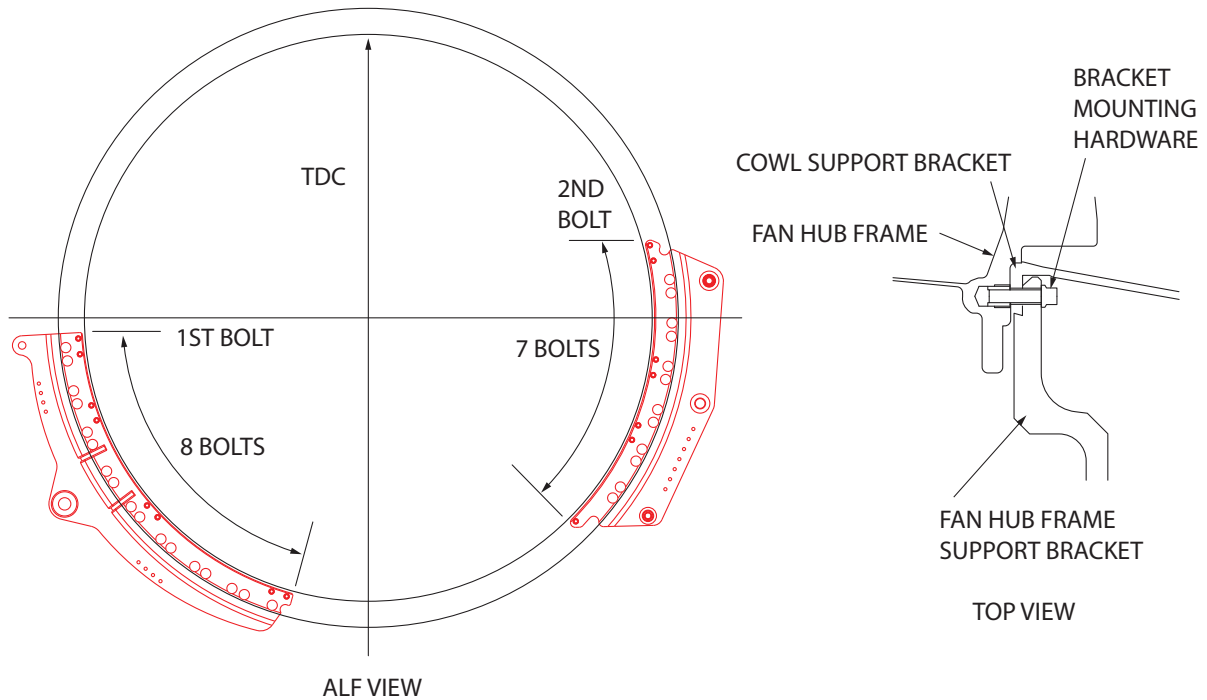

Figure 5.2-4
- 4) Install the FWD RH and LH engine support brackets to engine using the 15 bolts provided with the brackets. Torque these bolts to a value of 20 ft-lb. (Figure 5.2-4).